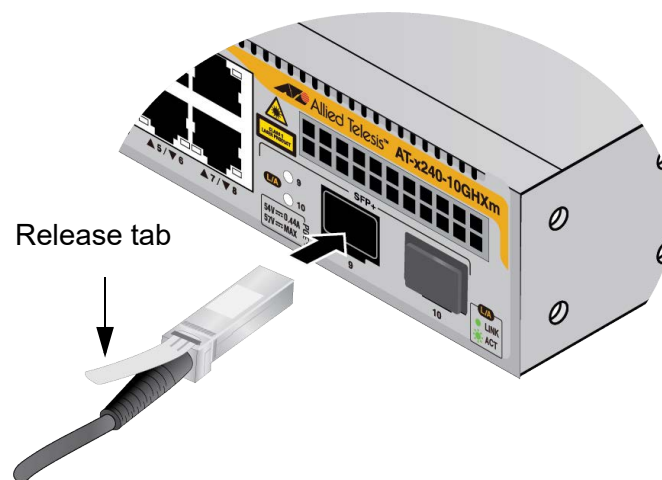

Figure 59. Installing SP10TW Cables
4. Slide the connector into the slot. The release tab on the connector must be on the top. See Figure 59.